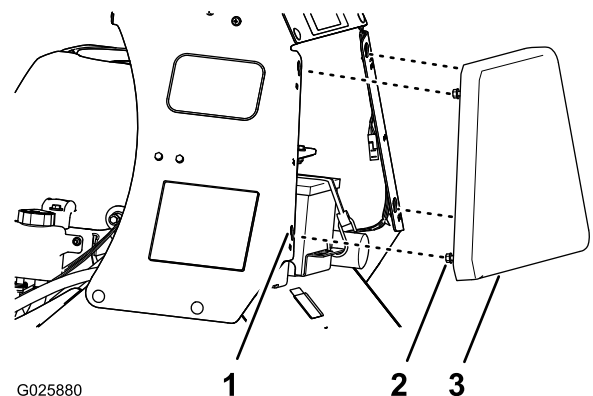

Figure 23
1. Loosen the 4 flanged-head bolts that secure the pad to the left and right console panels (Figure 23).
2. Lift up the console pad (Figure 23) approximately 13 mm (1/2 inch).
3. Pull the console pad straight back and remove the pad from the machine (Figure 23).
1. Align the 4 flanged-head bolts at the forward face of the console pad to the 4 keyhole slots in the frame of the console (Figure 23).
2. Move the pad forward until the pad is flush to the console frame (Figure 23).
3. Move the pad down until the flanged-head bolts are seated in the keyhole slots (Figure 23).